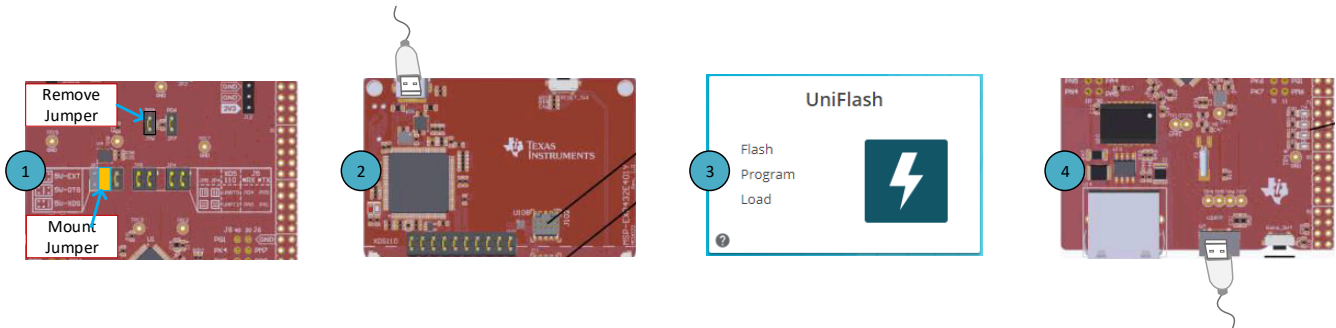

Figure 2-4. Analog EVM Controller Setup
1. Remove jumper JP6 on the Analog EVM Controller as shown in step 1 of Figure 2-4.
2. Mount jumper on 5V-OTG. Retain the jumper on 5V-XDS as shown in step 1 of Figure 2-4.
3. Connect the USB cable to the port on the XDS110 side of the board as shown in step 2 of Figure 2-4.